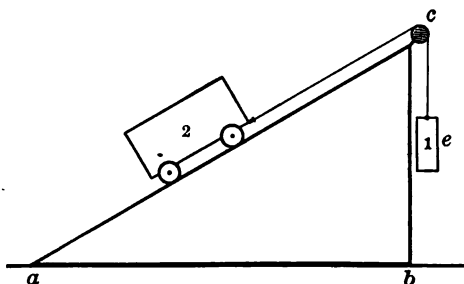

FIG. 31
155. Make an inclined plane in any convenient way, but preferably so that a pulley may be placed at  $c$  (Fig. 31). Make a car (2) to run with little friction. Put various weights on the car and balance these with weights at  $e$  so that it will not move. Allow for the weight of the car and for any possible friction; then state the ratio of gain in using the incline as against a vertical lift. Measure the sides  $ac$  and  $bc$  and compare these with the results just stated.